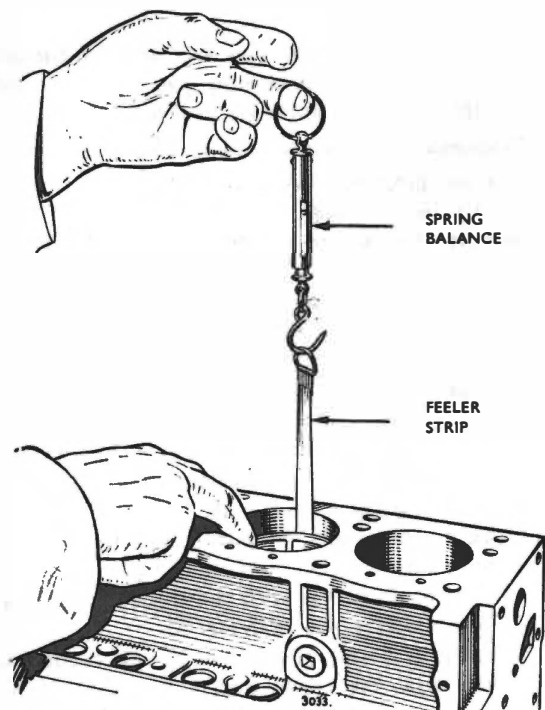

Fig. 46. Checking piston clearance with feeler and spring balance
4. In the absence of suitable cylinder bore measuring equipment pistons may be fitted by checking their clearance with a feeler gauge and spring balance as shown in Fig. 46.
To do this invert the piston and insert in the bore with a .0015" (.038 mm.) x 1/2" (12.7 mm.) wide feeler in line with the thrust face of the piston skirt as shown in Fig. 46.
The honing operation allows the bore size to be taken to the size that will allow the piston to be correctly fitted using a feeler to check the clearance as previously described and illustrated in Fig. 46. It is advisable to regrind and reset the cutter after completing each cylinder bore.